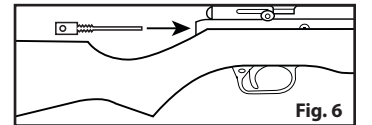

Fig. 6
- Insert the degassing tool (Sold Separately at Crosman.com) into the threaded plug as shown in Figure 6.